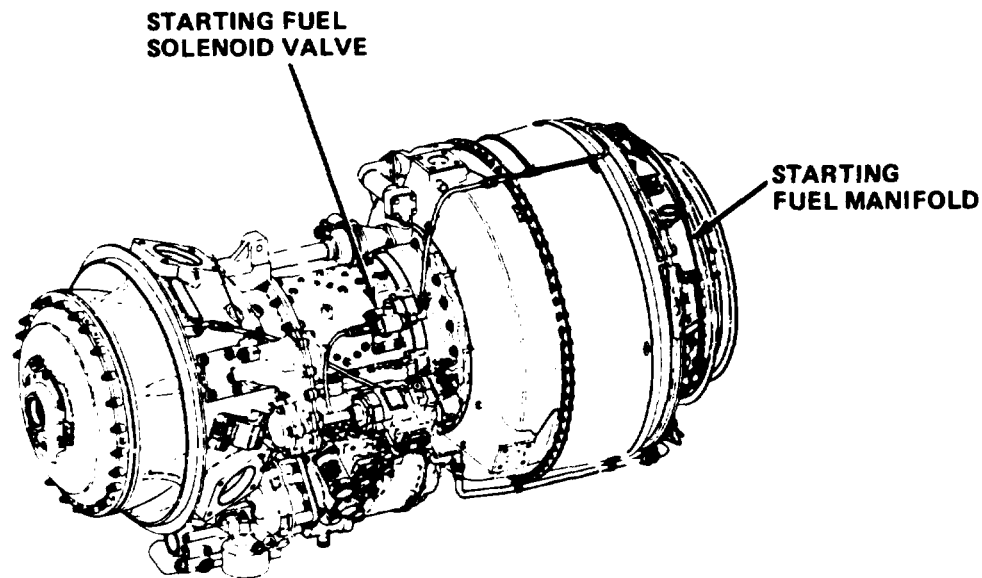

Figure 1-13. Starting Fuel System (T53-L-13B/703 Engines)
**1-17. Starting Fuel System (T53-L-13B/703 Engines).** During engine start, turn on start fuel switch which opens starting fuel solenoid valve. This allows starting fuel from fuel control to flow through starting fuel manifold, four starting fuel nozzles, and into combustion chamber where it is ignited by four igniter plugs. When N1 attains sufficient speed, ignition system is deenergized causing solenoid valve to close and stop flow of starting fuel. After engine starts, residual fuel left in starting fuel nozzles is purged by air from combustion chamber through a check filter valve. (See figure 1-13.)